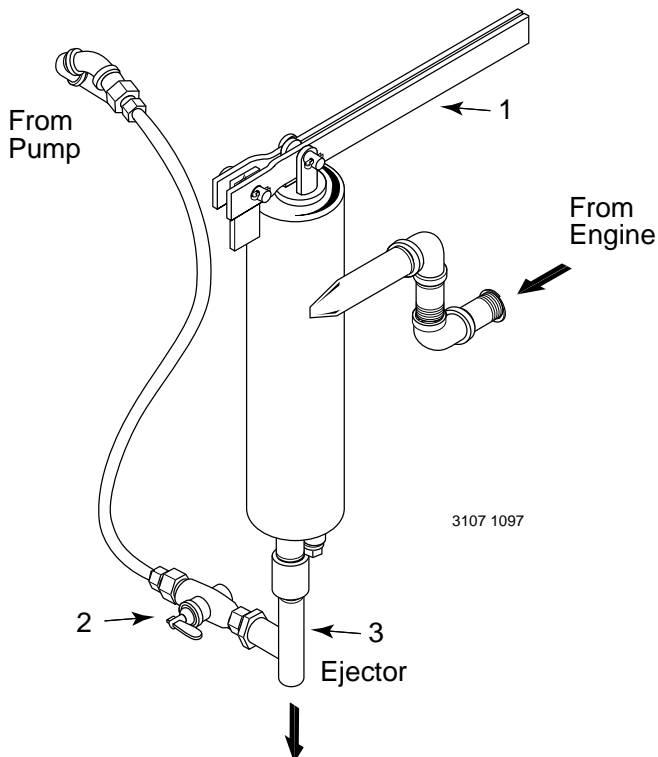

Figure 5
**With Exhaust Primer** (see Figure 5, below):